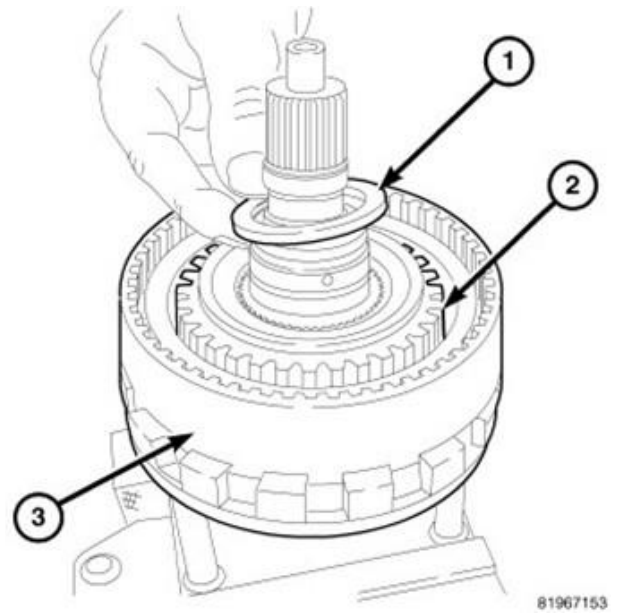

Figure 36 – Thrust Bearing
- 51. Remove the thrust bearing (1) from the overrunning clutch (2) (Figure 36).
64. Install the thrust bearing (1) to the overrunning clutch (2) (Figure 36).